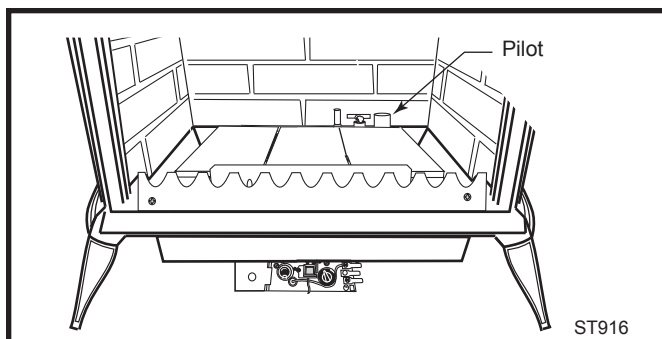

**Fig. 76** Remove mounting screws from old pressure regulator assembly. Replace step motor with new conversion step motor.
1. Using the TORX T20 bit remove and discard the three (3) pressure regulator mounting screws from the old pressure regulator assembly. (Fig. 76)
2. Insure the rubber gasket (D) is properly positioned and install the new step motor (E) pressure regulator assembly to the valve using the new screws supplied with the kit. Tighten the screws securely. (Ref. torque = 25 in/lb) (Fig. 76)
3. Install the identification label (F) supplied with the stepper motor to the valve body where it can easily be seen. (Fig. 76)